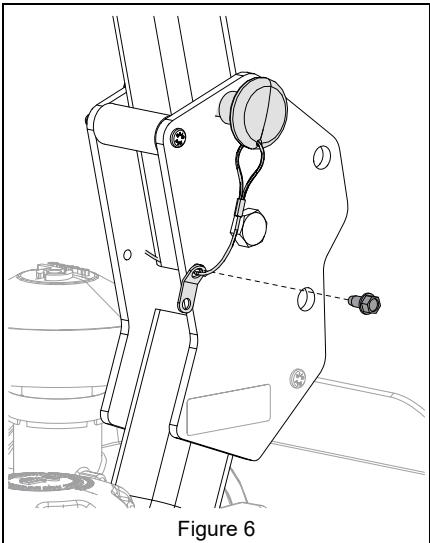

Figure 6
10. Secure lanyard to ROPS using tapping screws from literature pack. See Figure 6.